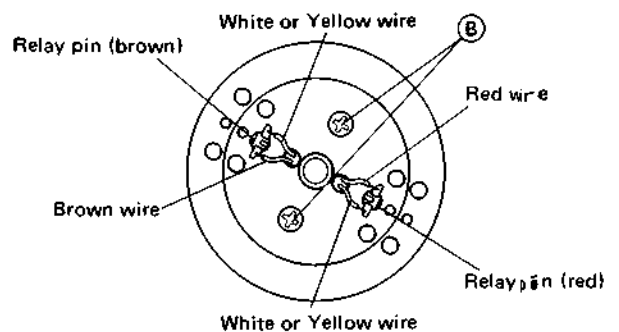

Fig. 4-9 Upper drum wiring
3. Unsolder the four wires connecting the lower drum assembly from the relay pins of upper drum assembly (perform quickly to avoid damaging the wires) as shown in Fig. 4-9.
4. Take out two screws (B) and remove the upper drum assembly in the upward direction.
6. Reassemble by reversing the above steps. When resoldering, observe the correct channels (brown: CH-1, red: CH-2) and avoid overheating the wires. Use screw (A) to secure the brush assembly together with the earth wire to the video head board. Check that the brush assembly is positioned at the center of the commutator.